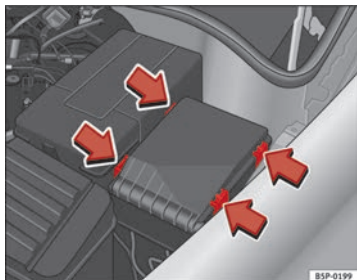

Fig. 186 In the engine compartment: fuse box cover
- Press the locking tabs in the direction indicated by the arrows to release the fuse box cover ⇒ Fig. 186.